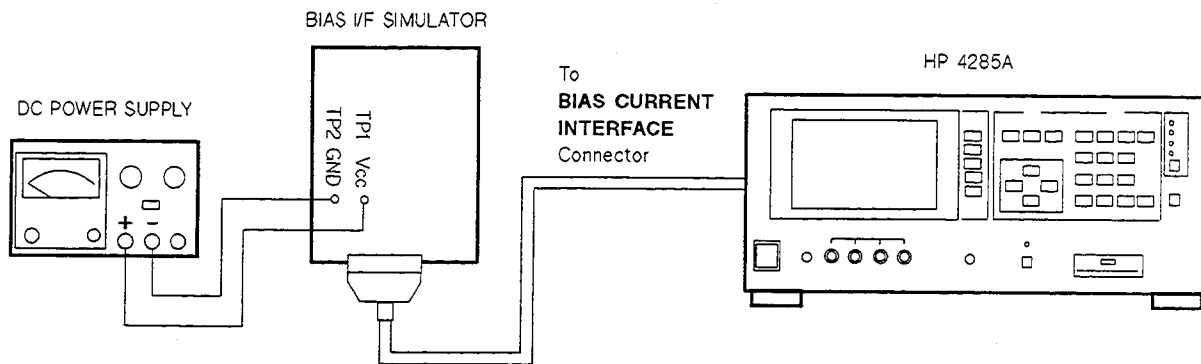

Figure 1-18. Accessory Control Interface Function Test Setup
- Interconnect the bias interface simulator and bias interface connector on the rear panel of the HP 4285A with the bias interface cable as shown in Figure 1-18.